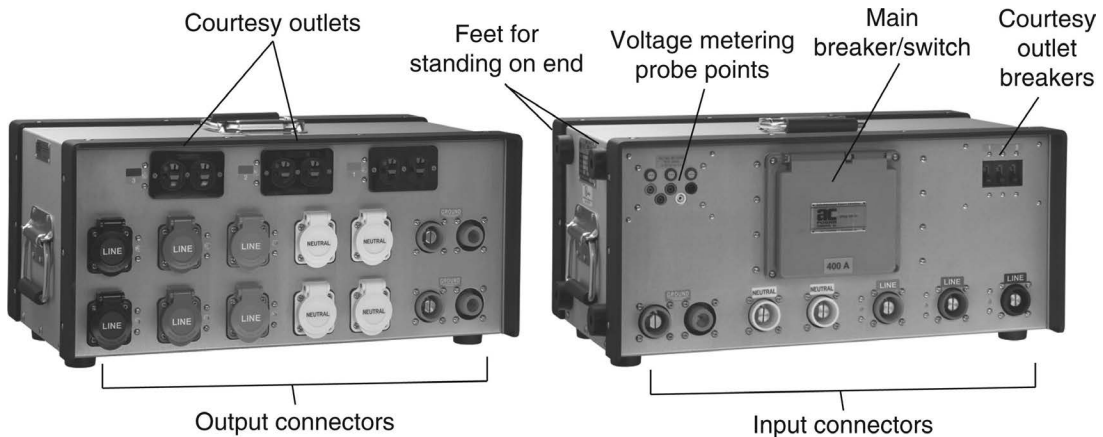

FIGURE 14.3
A step-down box (Figure 14.3) provides overcurrent protection which is matched to the size of the downstream feeder cable. The box is connected to the power source with short jumper cables. The length of the jumper cable (NEC 240.21(B) calls them *tap conductors*) is required to be limited as follows:
Connectors are oriented with “pins to power,” meaning that the male pins point toward the power plant and the female end goes toward the lights. This is true for feeder cable as well, except for the ground. In our industry, a reverse ground system has been widely adopted. Most equipment, including banded cable and distro boxes, is set up with the ground reversed. The male connector on the grounding wire points downstream, toward the load. The idea is to make it impossible to plug a hot wire into the ground by mistake. Because this system is not universally used, you will find distribution boxes that provide both male and female connectors for the ground (as shown in Figure 14.3).